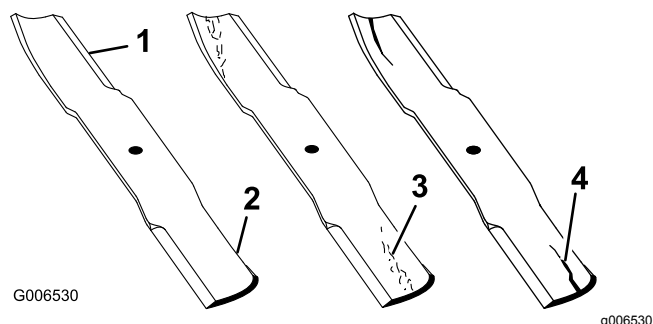

Figure 42
1. Inspect the cutting edges (Figure 42).
2. Inspect the blades, especially the curved area (Figure 42).
Note: If you notice any damage, wear, or a slot forming in this area (item 3 in Figure 42), immediately install a new blade.